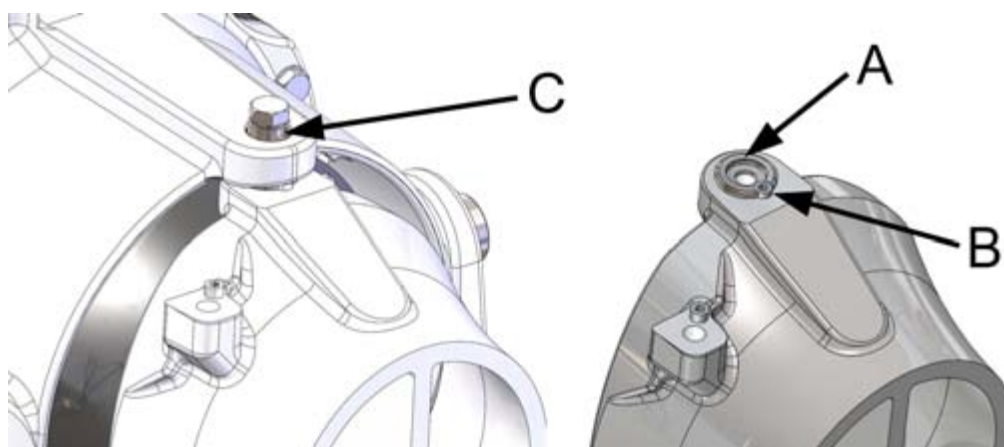

Figure 84. Nozzle joint pivots
1. Make sure that the steering nozzle joint pivot washer (figure 84, point A) and locking screw (figure 84, point B) are in place.
2. Place the steering nozzle between the stator joint holes and set the upper joint pivot in place (figure 84, point C).